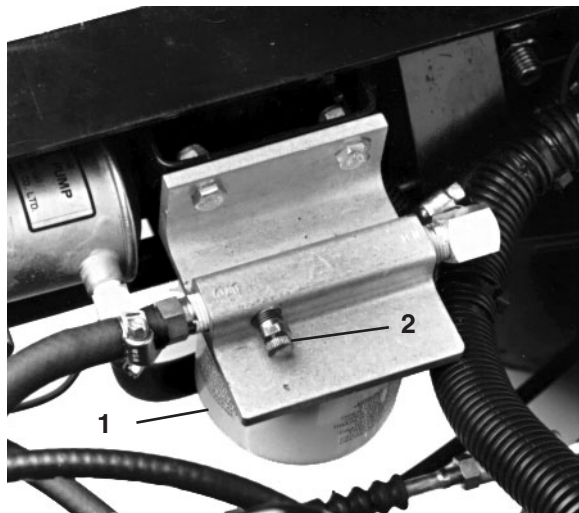

Figure 22
1. Loosen air bleed screw on top of fuel filter/water separator (Fig. 22).